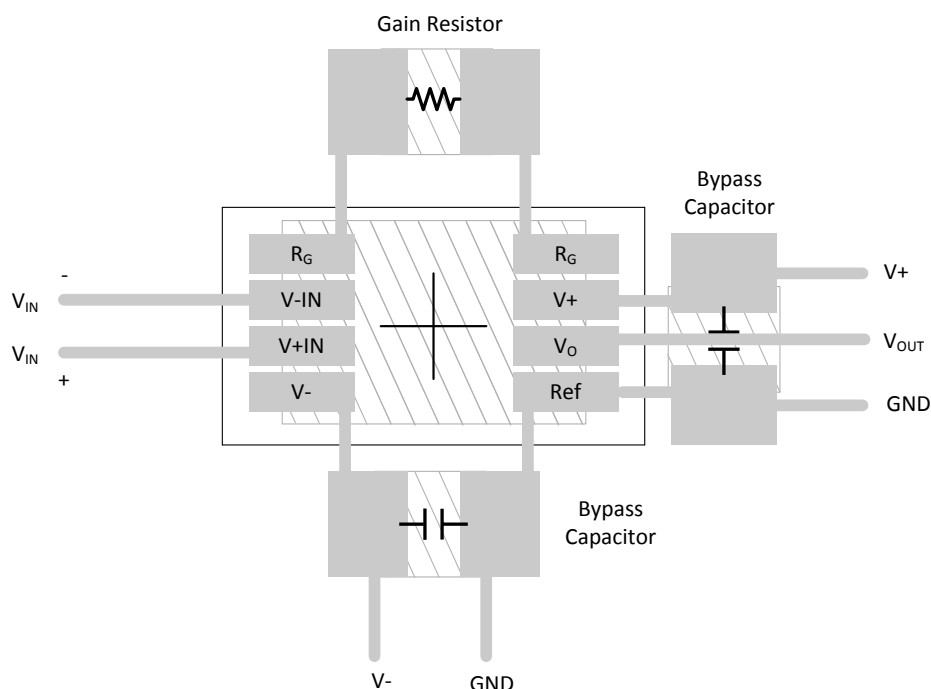

Figure 10-1. INA126 Layout Example
- Place the external components as close to the device as possible. As illustrated in Figure 10-1, keep R_G close to the pins to minimize parasitic capacitance.